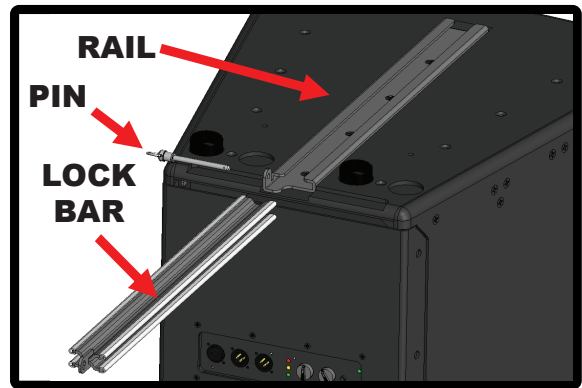

Figure 2
2. Remove LOCK BAR From rail (Figure 2)
2. Retirez la BARRE DE VERROUILLAGE (LOCK BAR) du rail (figure 2)